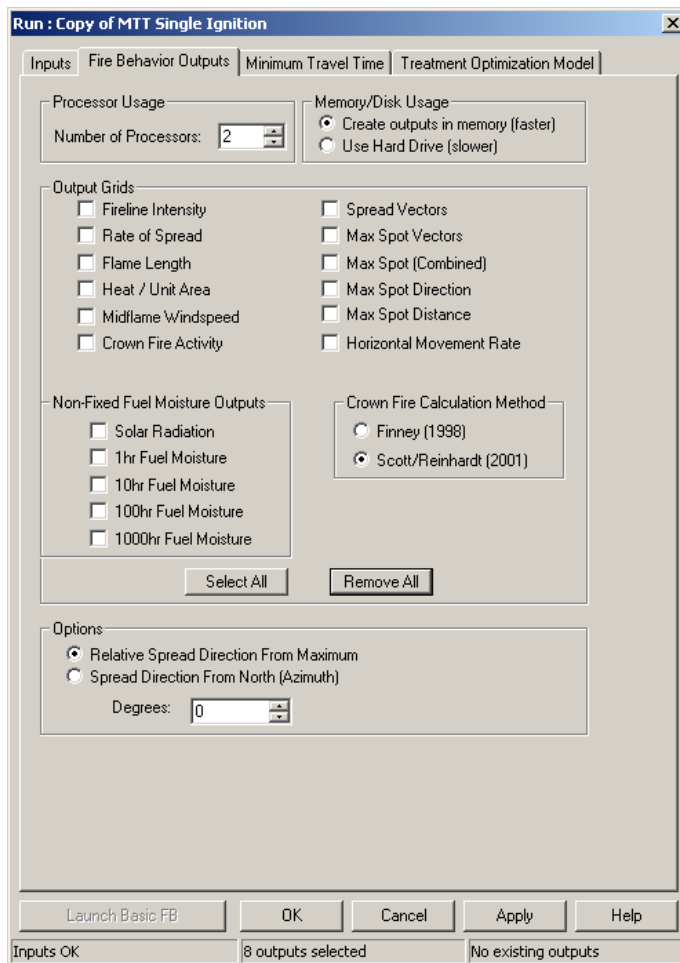

Figure 4-48—MTT random fire behavior outputs options.
2) Select the **Fire Behavior Outputs** tab (see fig. 4-48).